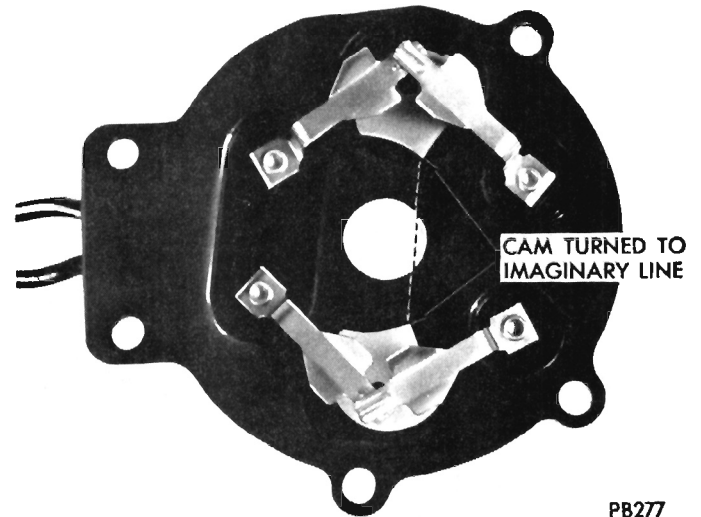

Fig. 5 - Switches Closed
(5) Inspect the switch blade contact surfaces and clean if necessary.
(6) Position the switch cams as shown in Figure 5 and verify that both switches are now closed.
CAUTION: Do not over rotate since the cam can hit and damage the limit switch. Return the assembly to the Figure 5 condition (both switches closed) and remove the gear assembly.